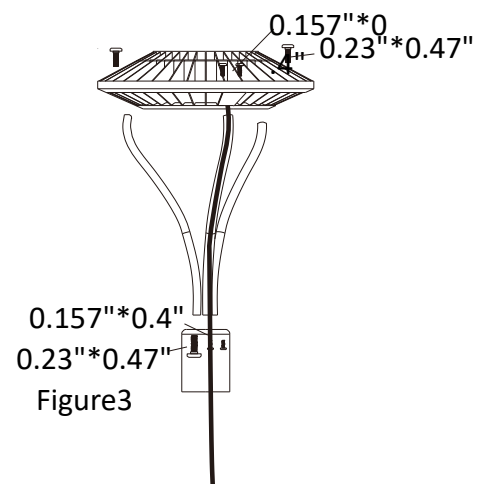

Figure 3
3. Twist the corresponding screw into the corresponding lever arm and tighten it. (Figure 3)